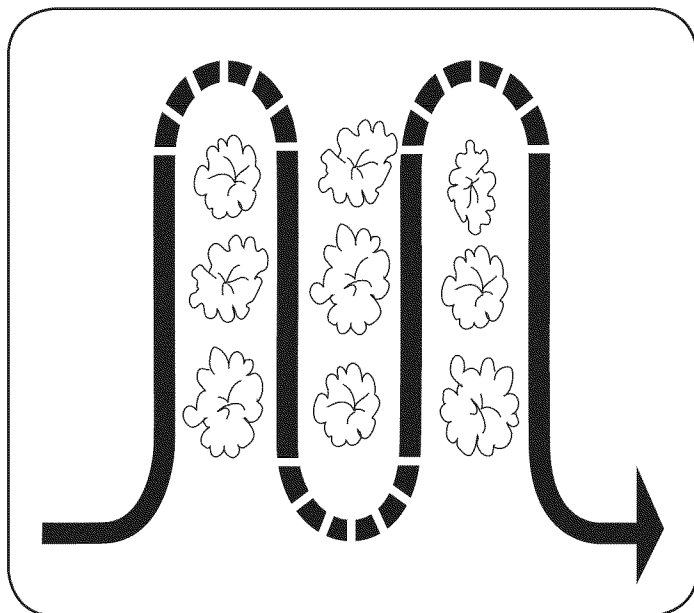

Figure 12
- When cultivating (breaking up the surface soil around the plants to destroy weeds, See Figure 12), adjust the tines to dig only 1" to 2" deep. Using the shallow tilling depth helps prevent injury to the plants whose roots often grow close to the surface. If needed, lift up on the handlebars slightly to prevent the tines from digging too deeply. (Cultivating on a regular basis not only eliminates weeds, it also loosens and aerates the soil for better moisture absorption and faster plant growth.) Watering the garden area a few days prior to tilling will make tilling easier, as will letting the